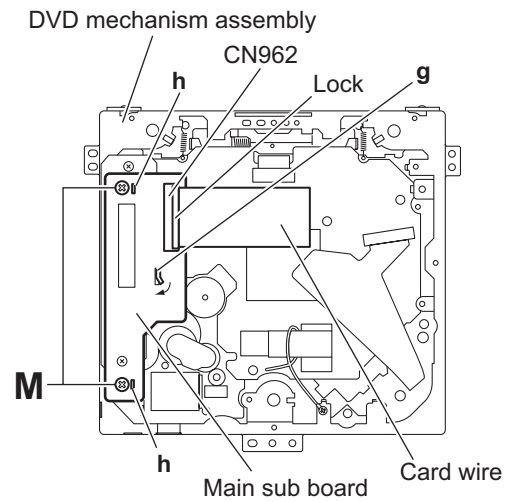

Fig.10
- Release the lock of the connector **CN962** on the main sub board and disconnect the card wire. (See Fig.10.)
- Bend the joint **g** in the direction of the arrow. (See Fig.10.)
- Remove the two screws **M** attaching the main sub board and remove the main sub board from the DVD mechanism assembly. (See Fig.10.)
- When attaching the main sub board, align the joints **h** in the holes of the main sub board before attaching the screws **M**. (See Fig.10.)